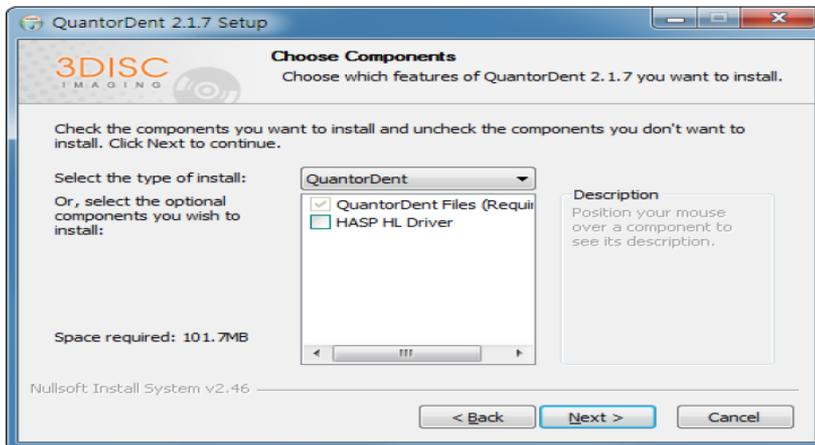

Figure 2.2 Components Dialog Box
- Choose all components and click the “Next” button as shown in Figure 2.2